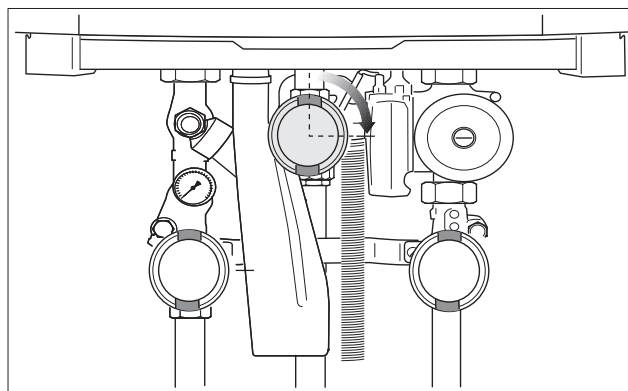

fig. 85 Closing the gas valve
- Close the gas valve (fig. 85).
- Close the gas shut-off valve when no more air is present (fig. 85).